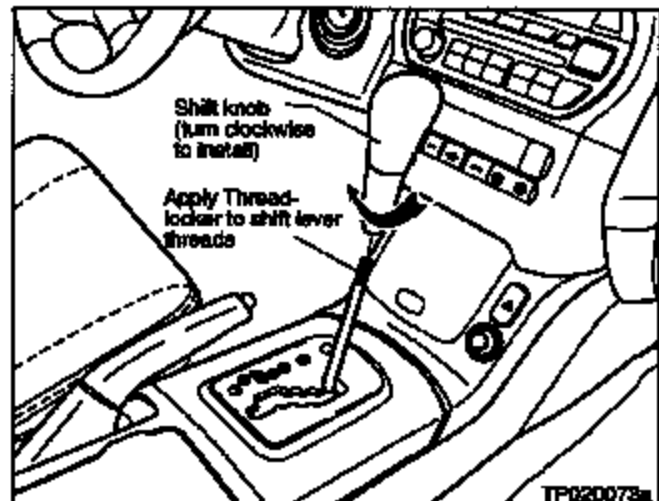

Figure 7
9. Apply a few drops of High Temp High Strength Threadlocker Red to A/T shift selector lever threads (see figure 7).